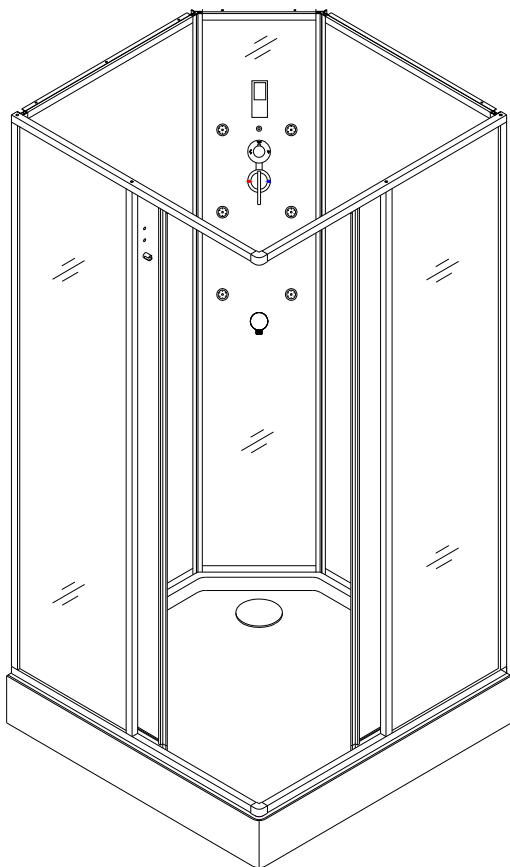

Fig 8
11. Put the shower enclosure assembly onto the tray. Drill holes on the glass profiles of the stationary glass; then secure them with **Round head screws ST4.2x16 (11)**. See Fig 8 and Fig 9 for details.